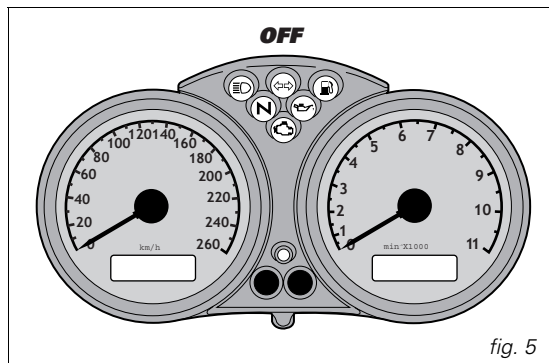
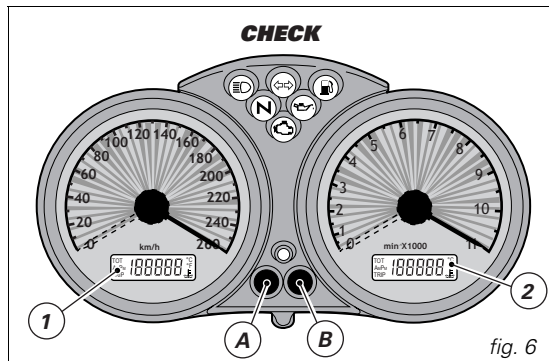

fig. 5
fig. 6
When turning the key from **OFF** to **ON (Key-ON)** the instrument panel carries out a Check of the whole instruments: indexes, displays and pilot lights (fig. 5 and fig. 6).
Turn the key to **ON** and press (B, fig. 6) to display trip meter and odometer alternatively.
Keep (B, fig. 6) pressed for more than 2 seconds. When the **TRIP** function is enabled (trip meter), display (LCD 1) will reset.
Turn the key to **ON** and press (A, fig. 6) to display clock and oil temperature.
Press (A, fig. 6) for at least 2 seconds.
Press (B, fig. 6) to set AM/PM. Press (A) to set hours. Use button (B) to change hour value. Press (A) to set minutes. Press (B) to increase the value. Keep the button pressed for more than 5 seconds to proceed faster. Press (A) to quit this function.
Turn the key to **ON** and press (B, fig. 6) within 5 seconds to change instrument panel lighting power.